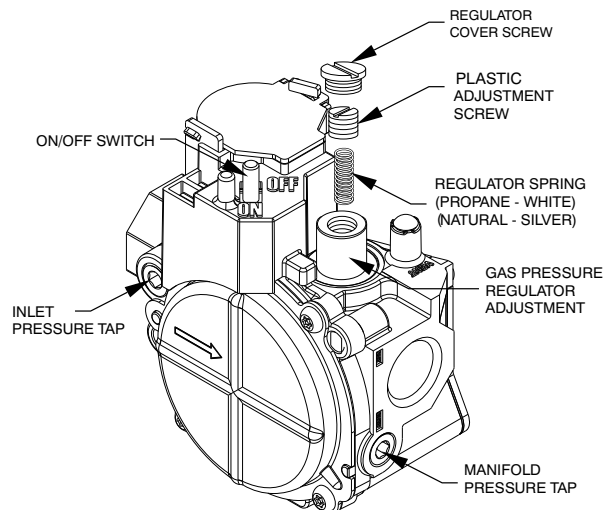
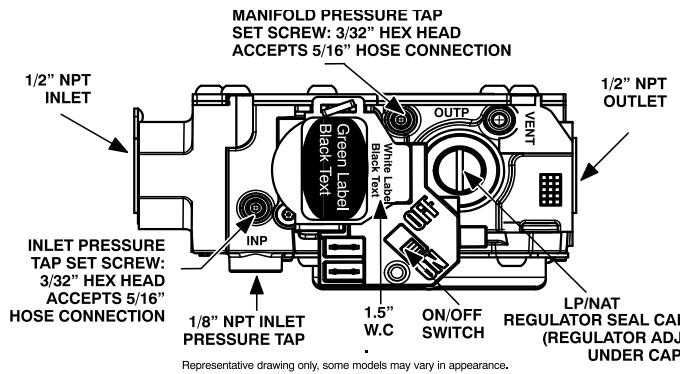

Fig. 13 – Standard Single-Stage Gas Valve
Fig. 14 – Single-Stage Gas Valve with Tower Pressure Ports
- a. For standard gas valves, remove manifold pressure tap cover using an allen wrench. (See Fig. 13). Install barbed pressure tap and hose to connect to manometer. Turn on gas supply to unit.
- b. For gas valve with tower pressure ports, loosen set screw on manifold tower pressure tap no more than one full turn with a 3/32-in. hex wrench. (See Fig. 14.) Connect manometer by sliding 5/16" connecting hose over the manifold tower pressure port. Turn on gas supply to unit.
1. Remove regulator cover screw over plastic adjustment screw on gas valve (See Fig. 13 and Fig. 14).
2. Turn plastic adjustment screw clockwise to increase gas input, or turn plastic adjustment screw counterclockwise to decrease input (See Fig. 13 and Fig. 14). Manifold pressure must be between 3.2 and 3.8 IN. W.C.
3. Replace regulator cover screw on gas valve (See Fig. 13 and Fig. 14).
- a. For standard gas valve, remove manometer hose and barbed pressure tap. Replace pressure tap cover using an allen wrench. (See Fig. 13.)
- b. For gas valve with tower pressure port, remove connecting hose. Tighten set screw on manifold pressure port using a 3/32" hex wrench. (See Fig. 14.)